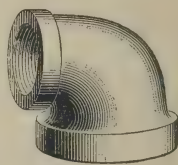

FIG. 7
**20.** **Reducing elbows**, one of which is shown in Fig. 7, are used for the same purpose as **straight elbows**, which are tapped the same size at both outlets; they differ from straight elbows in that the outlet end is tapped (threaded) for a smaller pipe. There are no right-and-left threaded reducing elbows manufactured; if required, they must be made to order. In fact, all reducing fittings are made with right-hand threads.